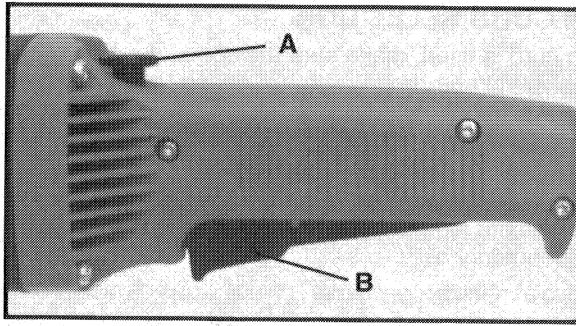

Fig. 1
3. To START Polisher: depress switch lock button (A) Fig. 1, as you squeeze the paddle switch (B) Fig. 1. When motor starts, release lock button.
5. SWITCH LOCK: the switch may be locked in the ON position as follows: with motor running, depress switch lock button (A) Fig. 1, and hold while releasing the paddle switch (B) Fig. 1. Release lock button. To release the lock and STOP the motor: squeeze the paddle switch and release, while leaving lock button free to spring outward.